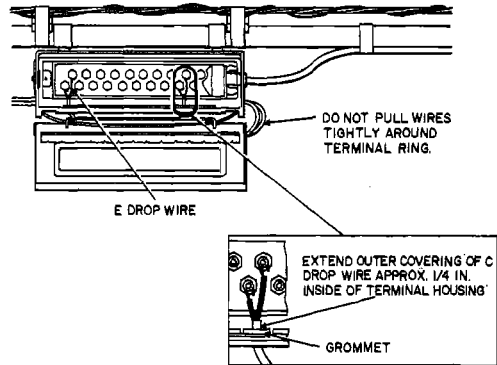

Fig. 19—Terminating Wires at Terminals
- 3.03** Insert the wire through the wire entrance hole and terminate it on the binding post so that the end of the insulation is about 1/8 inch from the washers. The outer covering of the drop wires should extend at least 1/4 inch inside the terminal housing. See Fig. 19.